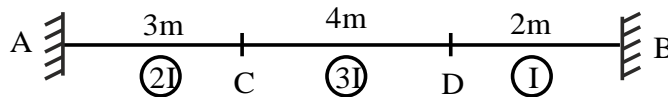

Fig. 7
- b) Calculate stiffness and carry over factor from 'A' to 'B' for the beam as shown in fig. 7 by column analogy method.